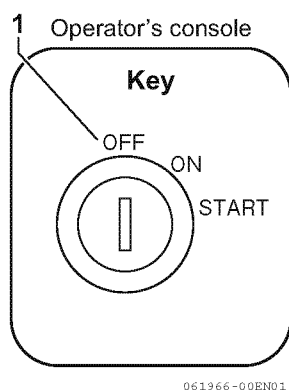

Figure 4
4. Turn the key to the OFF position (1, **Figure 4**) and remove it from the key switch.